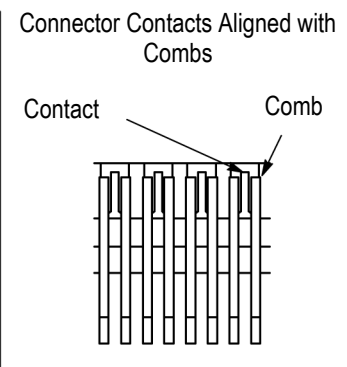

Figure 5
10. Refer to Figure 5, open the pivoting shear comb, and load a connector into the tooling. Place the connector edge at the connector locator, insert the connector contacts into the tooling contact slots, then press downward on the front of the connector until the connector snaps into place.
11. Check that the insulation displacement slot on each contact aligns with the slots on the shear comb, as shown in Figure 5. If the alignment is not correct, loosen the locking screw on the locator and move the locator and connector until the proper alignment is attained.